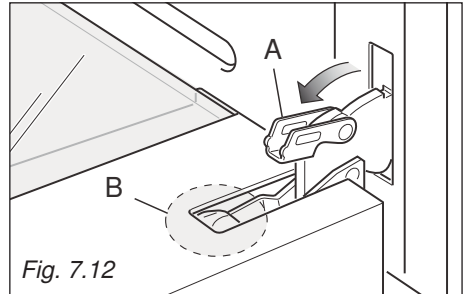

Fig. 7.12
- Open the lever "A" completely on the left and right hinges (fig. 7.12).
- Gently close the door until left and right hinge levers "A" are hooked to part "B" of the door (figs. 7.12, 7.13).